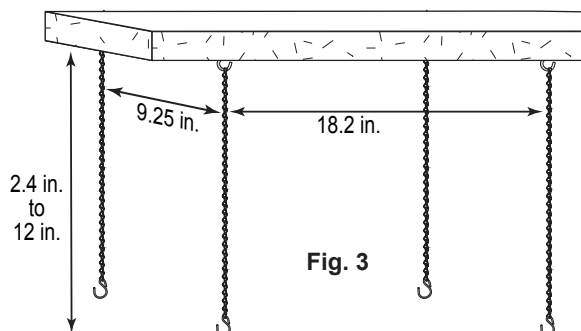
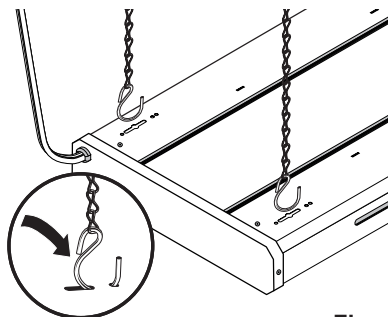
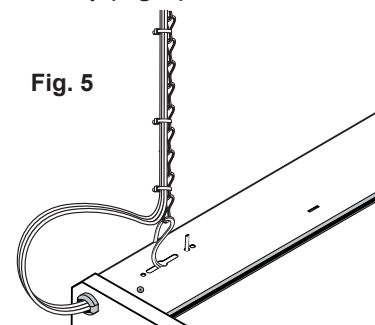

Fig. 3
Fig. 4
Fig. 5
1. Attach the chains to the mounting surface and determine the length the chains will be suspended (it is recommended that the light be suspended between 12 in. to 39 in.) (**Fig. 3**). Straighten the chains out and insert the "S" hooks at the end of each chain into the slotted holes on top of the fixture at each end (**Fig. 4**). The chains are only designed to hold the weight of the fixture safely (**Fig. 5**). **DO NOT HANG ITEMS OFF OF THE FIXTURE.**
It is recommended the power cord be secured to one of the hanging support chains with cable ties (not included) (**Fig. 5**).